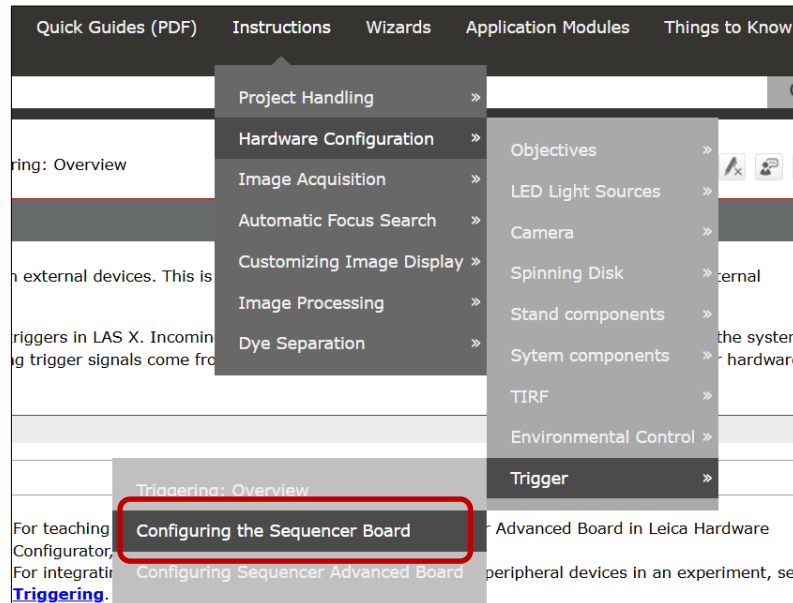

Figure 4: Instructions within LAS X for TTL triggering LED light sources with the Leica Sequencer Board (red box)
- For applications requiring illumination to be automated and synchronised with other components, TTL triggering is possible using the Leica Sequencer Board option. For configuration instructions, consult the relevant section in LAS X help section (Figure 4).